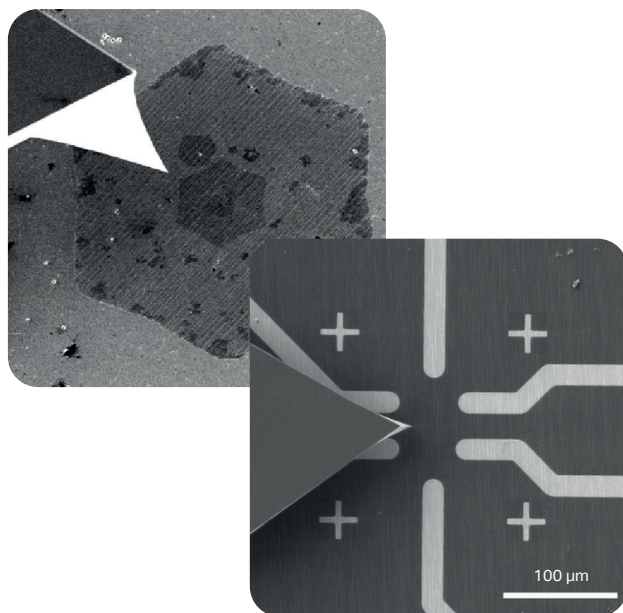

Figure 1: Precise AFM tip navigation to the region of interest.
- Fast and precise localization of nanostructures and nanodevices (Figure 1)